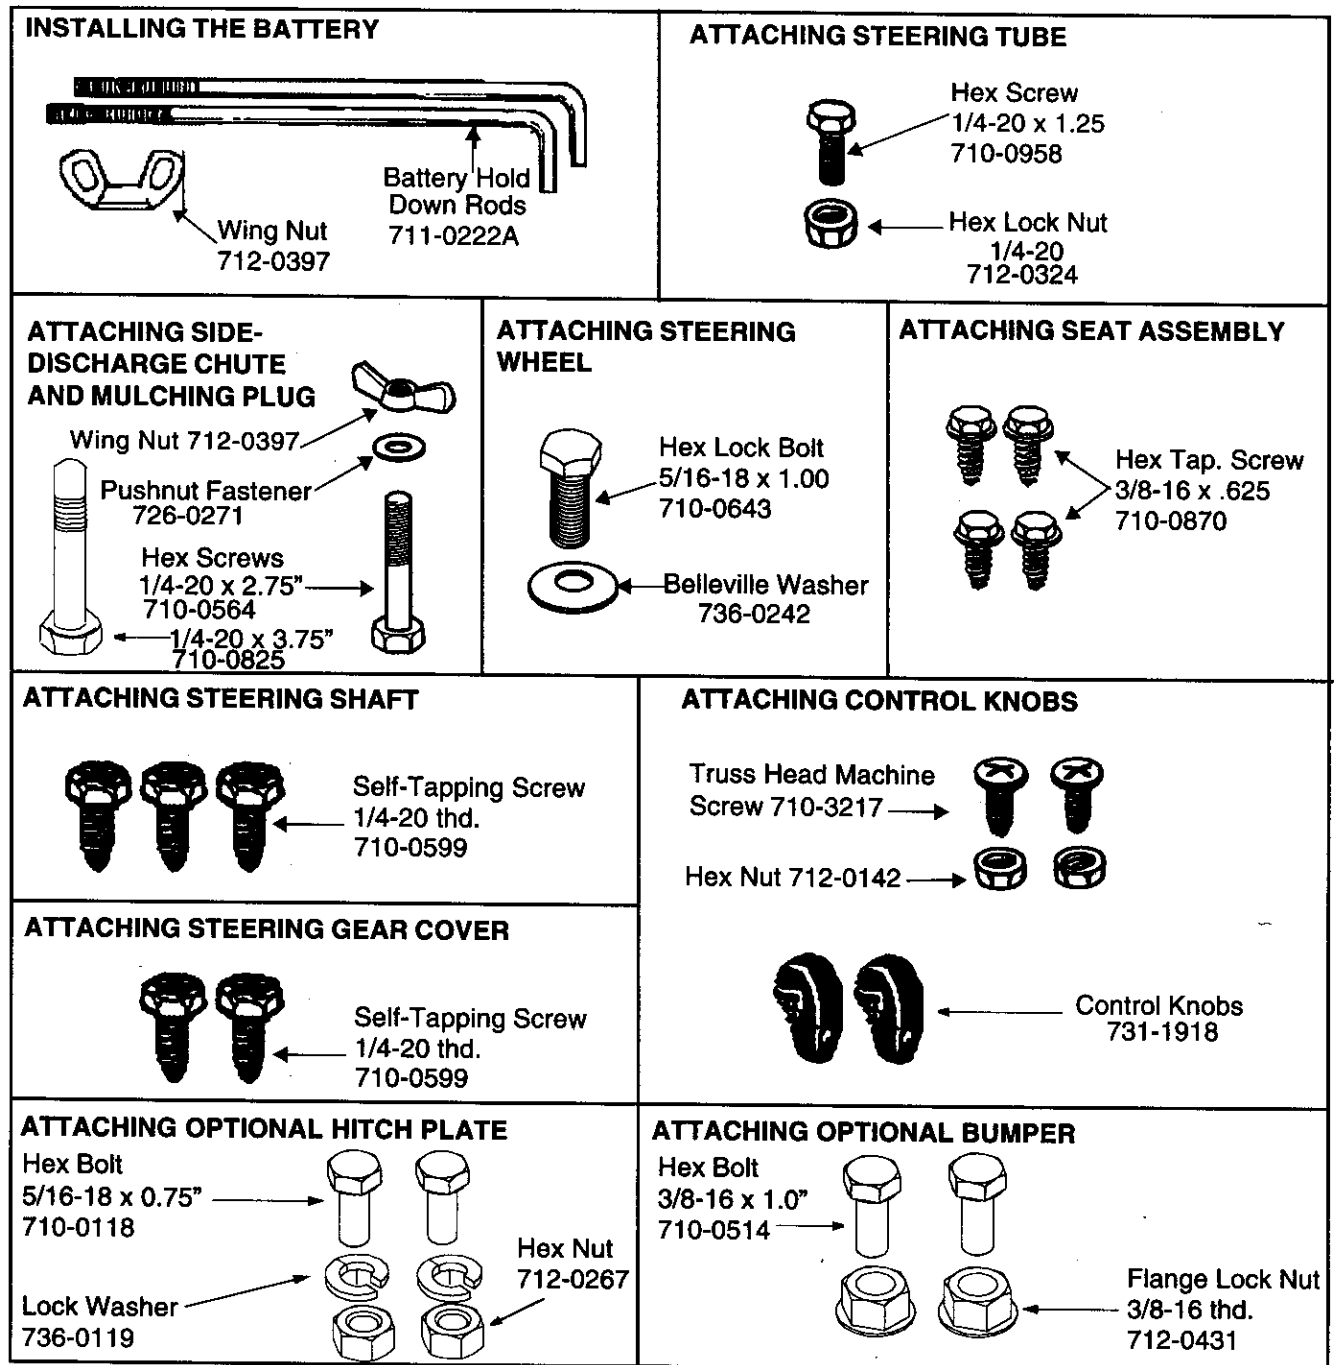

Figure 2
2. 7/16" wrench or socket (2)
3. 1/2" socket (1)
4. 9/16" wrench or socket (1)
5. Phillips head screwdriver (1)
6. Flat head screwdriver (1)
- All hardware necessary for assembling your rider mower is included in the hardware pack. See Figure 2 and get familiar with the hardware before starting to assemble unit.